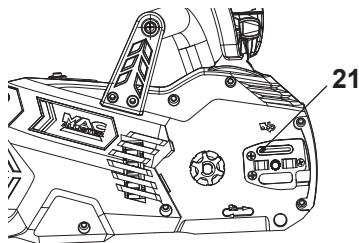

Fig.40
2. Check the oiling port (21) for clogging and clean if necessary to ensure proper lubrication of the guide bar and saw chain during operation. Use a soft wire small enough to insert into the oil discharge hole (Fig. 40).